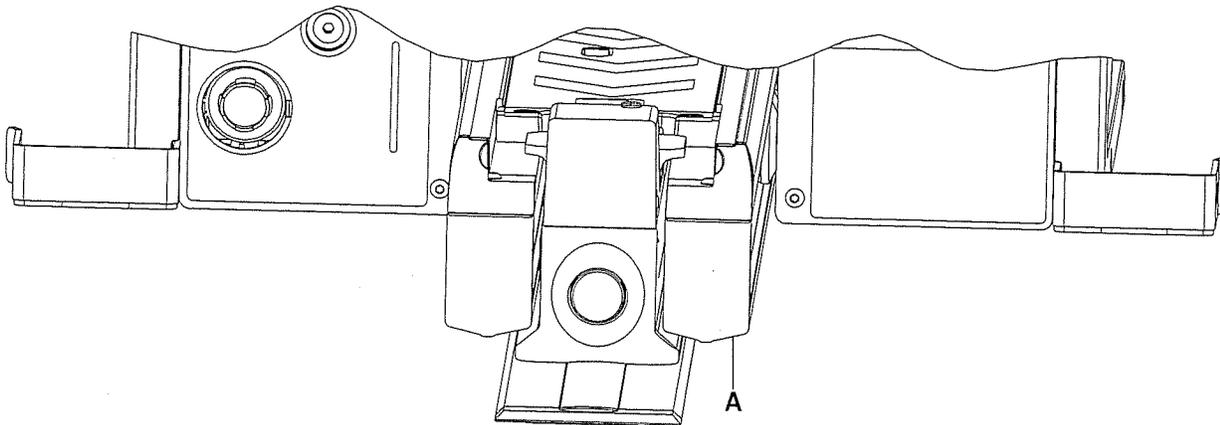

Figure 16: Dead stop bumper hump
Note: Position the dead stop bumper, so that the hump (A) is on the bottom (Figure 16 on page 24).